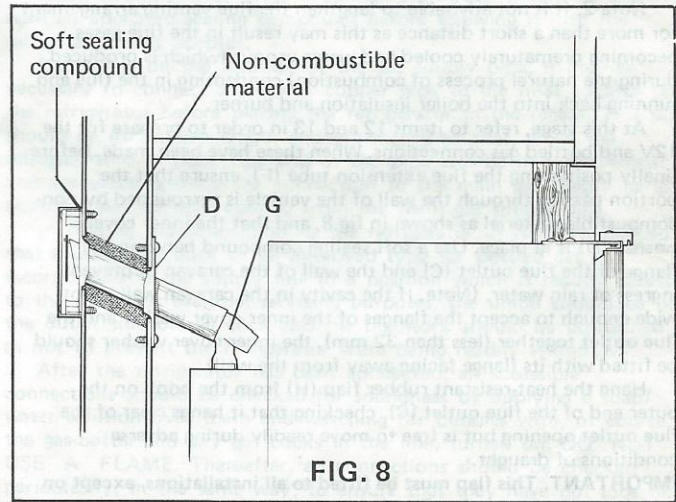

FIG. 8
The opening must be large enough to allow the insertion of a layer of non-combustible material around the extension tube as shown in fig.8, but the opening in the outer skin must not exceed 70 mm (2 3/4") in diameter, otherwise the flange on the flue outlet (C) may not cover it completely.
At this stage, refer to items 12 and 13 in order to prepare for the 12V and bottled gas connections. When these have been made, before finally positioning the flue extension tube (F), ensure that the portion passing through the wall of the vehicle is surrounded by non-combustible material as shown in fig.8, and that the inner cover washer (D) is in place. Use a soft sealing compound between the flange of the flue outlet (C) and the wall of the caravan to prevent ingress of rain water. (Note. If the cavity in the caravan wall is not wide enough to accept the flanges of the inner cover washer and the flue outlet together (less than 32 mm), the inner cover washer should be fitted with its flange facing away from the wall).